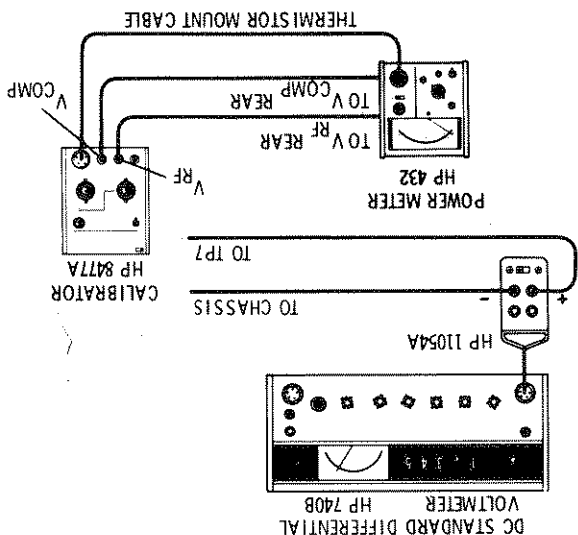

Figure 3. V_{comp} Check Test Setup
- a. Set up the test equipment as shown in Figure 3. Connect the positive lead of the voltmeter to TP13. Set the instrument controls as follows: